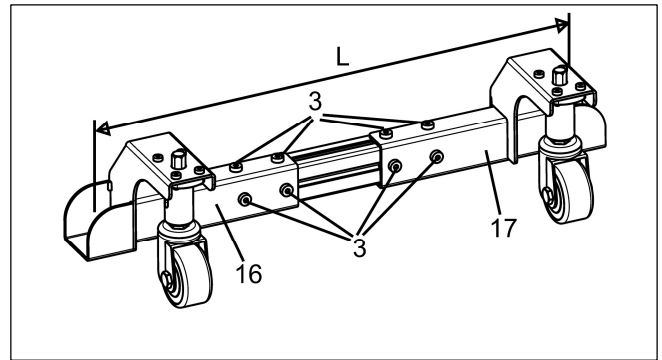

Fig.20
a. Loosen fasteners "3", and slide the left "16" and right "17" leg support brackets outward by equal distances. Once the distance (L) in **Fig.20** matches the spacing between the extension table legs, tighten the fasteners "3" (see **Fig.20**)